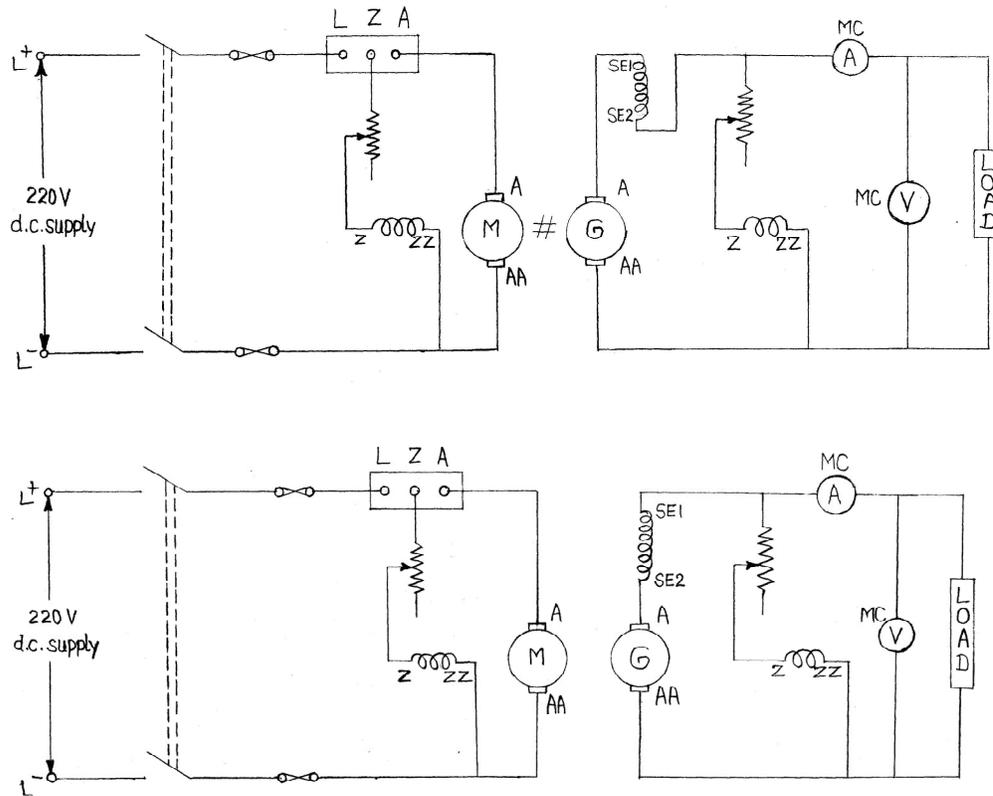

Fig1 : Load test on DC generator.
1. Connect the circuit of motor and generator as per Fig 1 .